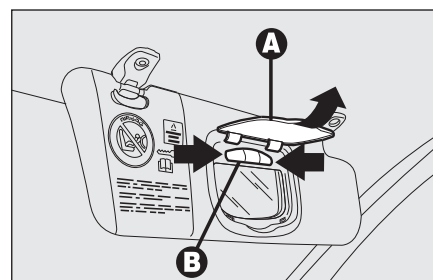

fig. 46
- ☐ open the mirror cover **A**-fig. 46;